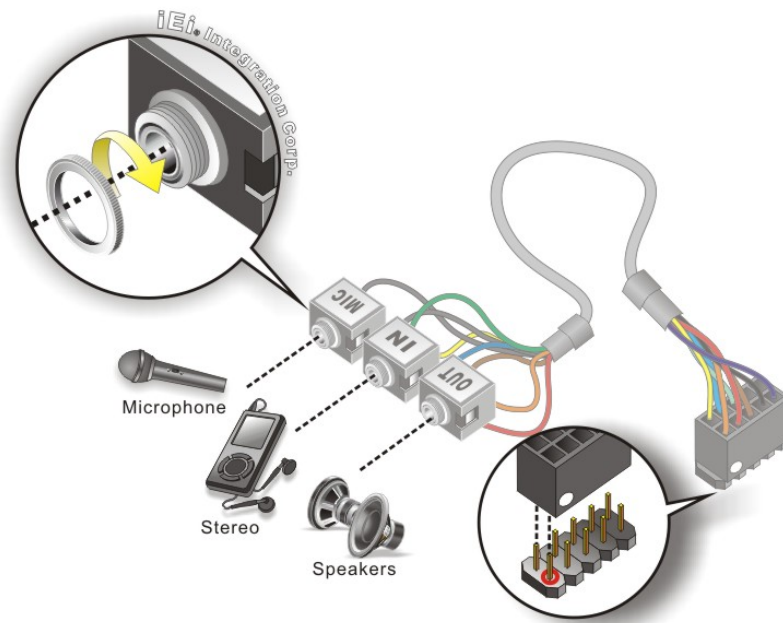

Figure 4-20: Audio Kit Cable Connection
Step 2: **Align pin 1.** Align pin 1 on the on-board connector with pin 1 on the audio kit connector. Pin 1 on the audio kit connector is indicated with a white dot. See **Figure 4-20**.